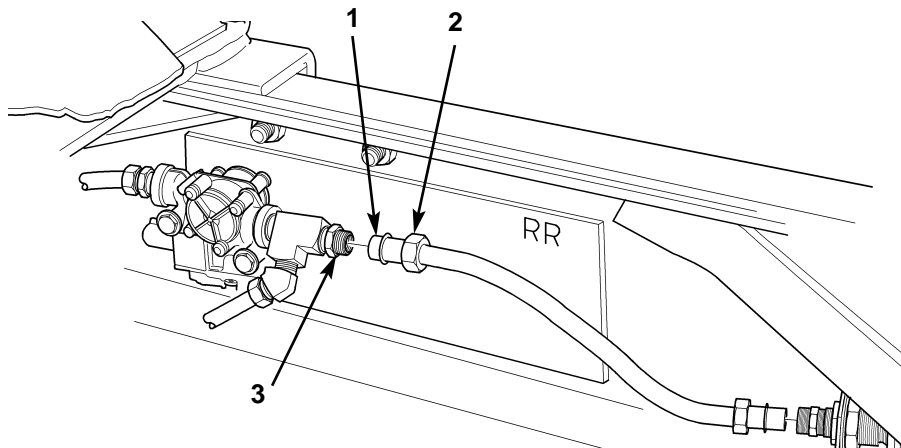

Figure 4. Installing Tube Assembly.
4. Push end of tube (figure 4, item 1) in fitting (figure 4, item 3) until it bottoms and thread nut (figure 4, item 2) on fitting (figure 4, item 3). Tighten nut (figure 4, item 2) in accordance with (IAW) table 1.